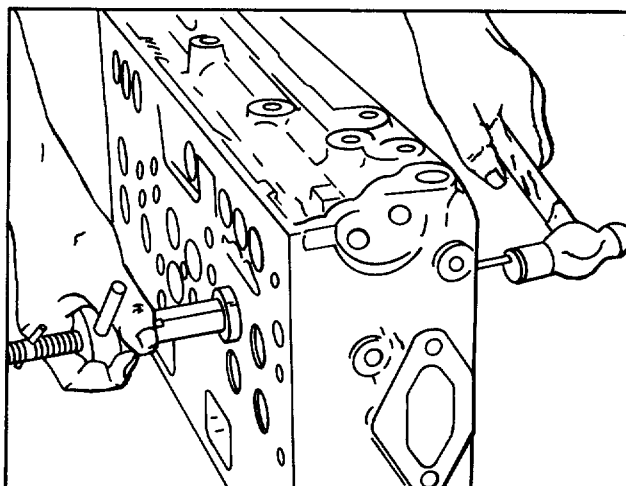

Figure 9. Removing Valve Seat Insert
1. Place the cylinder head on its side on a bench as shown in Fig. 9.